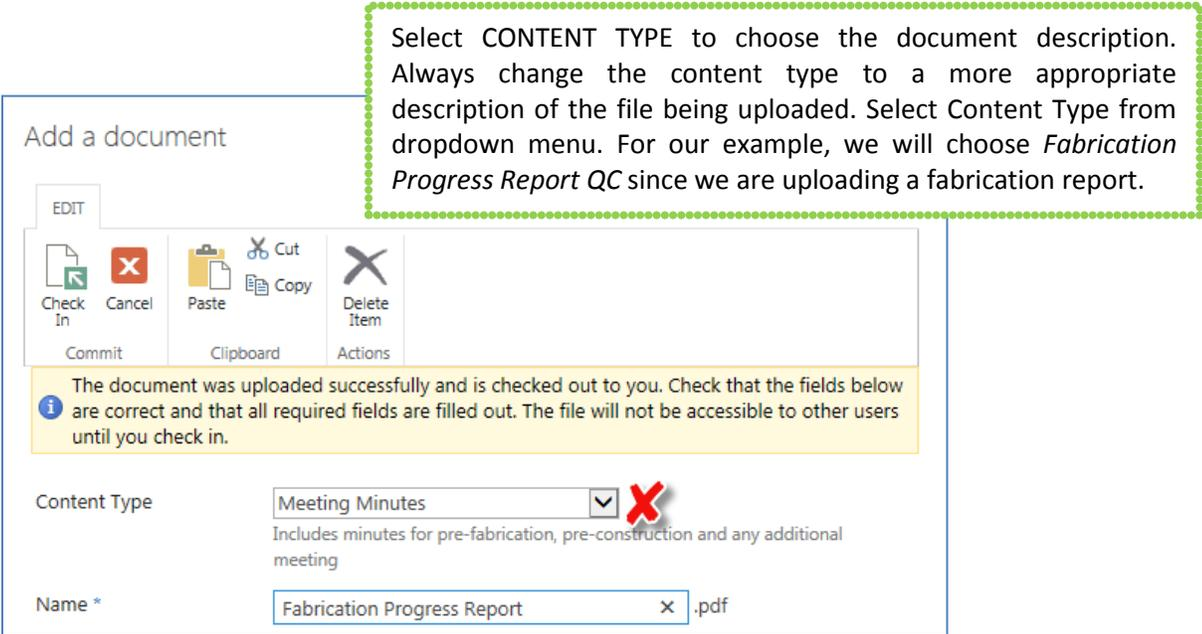

Figure 17: Select CONTENT TYPE to choose the document description. Always change the content type to a more appropriate description of the file being uploaded.
9. Another window will open. Here you will choose a content type, fill out the required information fields and click *Check In*. See **Figure 17**